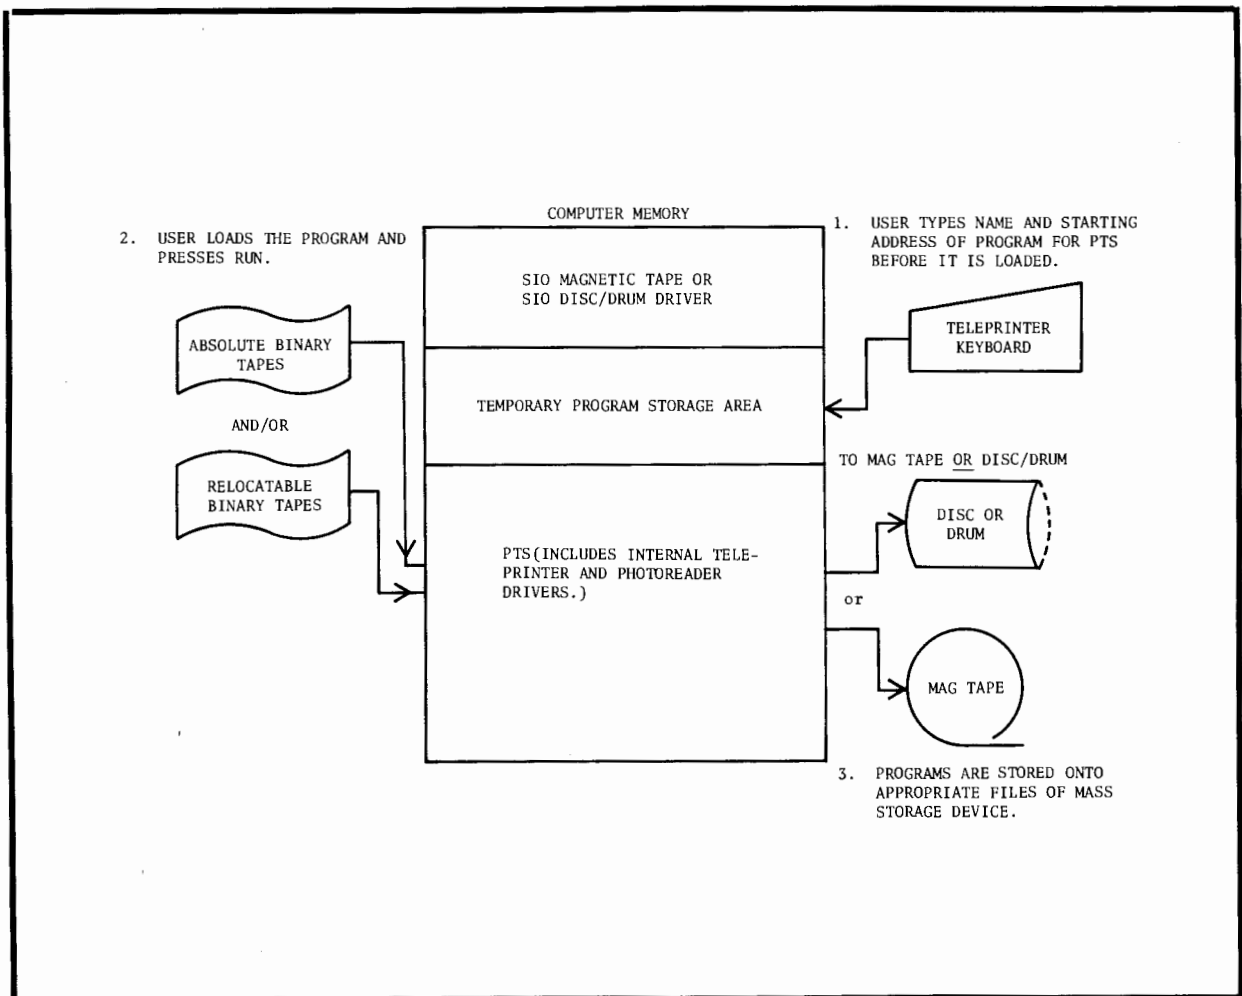

Figure 1-1. PTS Organization
- 1-1      Figure 1-1.   PTS Organization
The Prepare Tape System creates one or two program files on a mass storage device. For absolute programs (if any), PTS communicates with the user to establish the order of program loading and to assign program identification names and program starting addresses. These absolute programs make up File 1 of the mass storage. Then the user supplies relocatable programs (if any) for File 2. At a later time, the user can use PTS to add more programs to File 1 and/or File 2. Figure 1-1 shows the general organization of PTS.